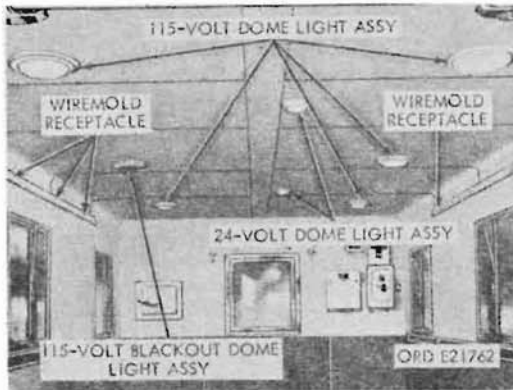

Figure 327. Dome lights and receptacles
a. 24-Volt Dome Light (Fig. 327).
- (1) Removal. Disconnect external power cables from two entrance receptacles. Remove dome lamp (par. 296). Remove four screws securing light fixture to roof panel. Pull light away from panel. Disconnect one electrical cable from socket and other cable from screw in side of light fixture, and remove light.
b. 115-Volt Dome Light and Blackout Dome-Light (Fig. 327).
- (1) Removal. Disconnect external power cables from two entrance receptacles. Remove dome lamp (par. 296). Remove four screws securing light fixture to roof panel. Pull light away from panel, disconnect electrical cables from socket, and remove light.